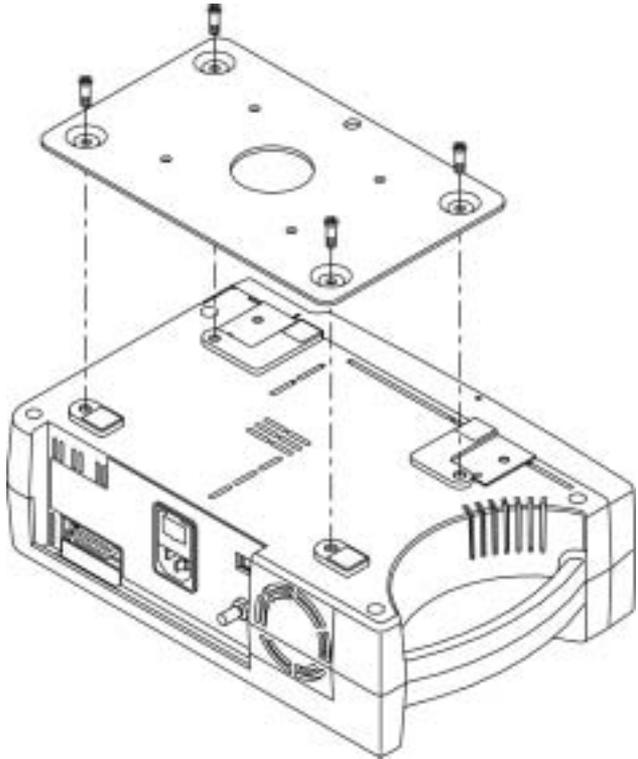

Figure 3: GCX Mounting Plate
- GCX Mounting Plate. See Figure 3, page 13.
The plate attaches to the bottom of the N-395 monitor as shown in Figure 3. For further instructions regarding connecting the plate to GCX brackets, refer to the illustrated directions for use included with the GCX mounting plate.